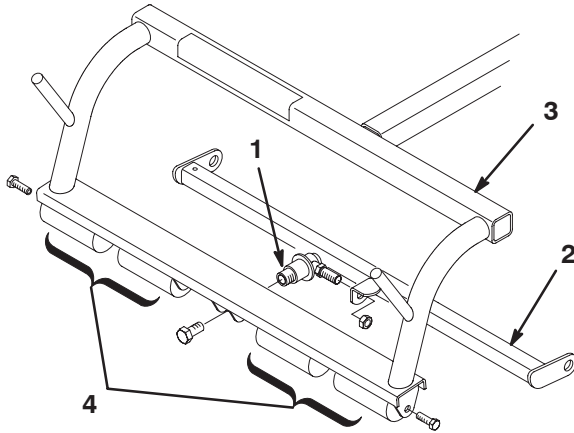

Figure 3
Note: If the carrier frames are equipped with single point pull frames, the pull frame and attaching ball joint must be removed (Fig. 3).
- A. Remove the screws securing the outside ends of each anti-scalp roller shaft to each end of the carrier frame (outside end of shafts only) (Fig. 3).